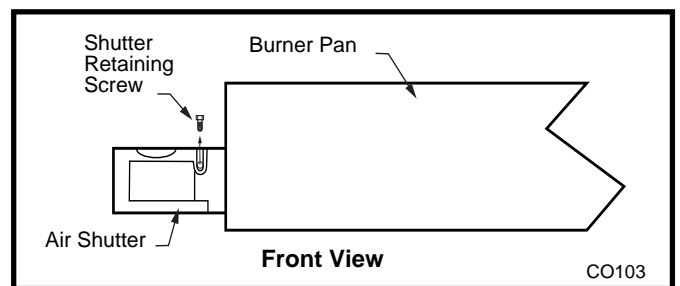

Fig. 24 Remove air shutter from burner pan.
10. Remove both air shutters from burner pan by removing shutter retaining screw then air shutter. (Fig. 24)